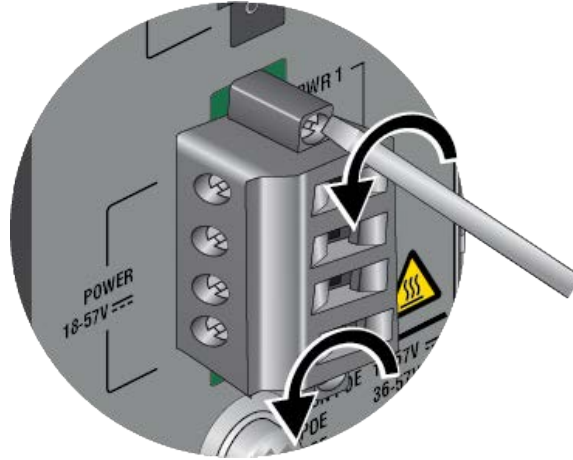

Figure 55. Loosening the Two Captive Screws on the POWER PLUG
3. Loosen the two captive screws on the POWER plug with a #1 flat-head screwdriver. Refer to Figure 55.